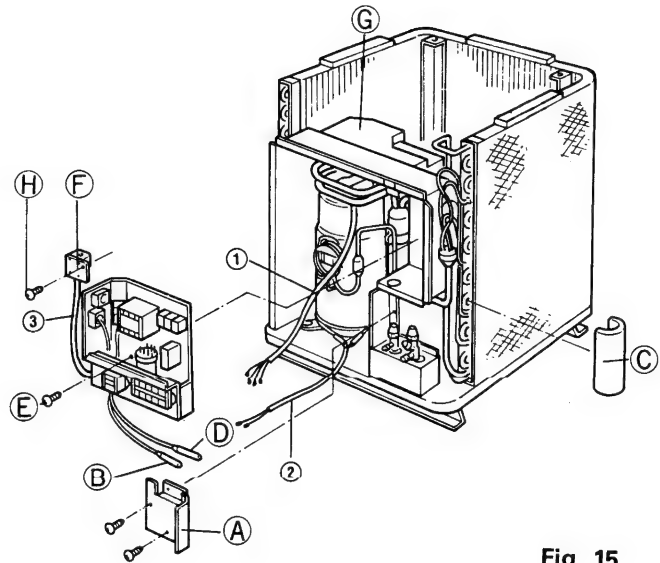

Fig. 15
- ②
- (1) Remove the cover plate (A) and the fixed sensor (B).
- (2) Remove the insulation (C), loosen the fitting fixing the sensor (D), and remove it.
- ③ When the above work has been completed, the electrical component box can be removed by removing the screw (E).
- ④ Loosen the screw (H) of the mounting plate (F) fixing the solenoid valve, and remove the cover (G). Fig. 15